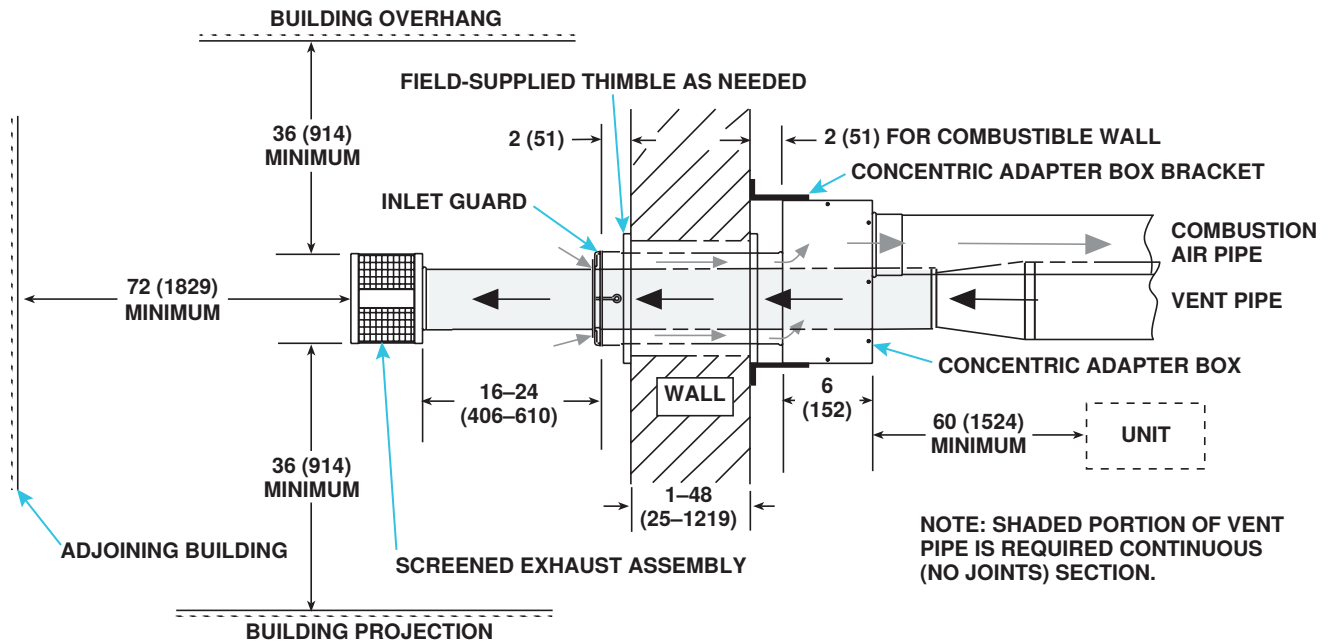

Figure 26. Option CC6 Installation
4. Secure longer angles on concentric adapter box brackets (see Figure 26) to concentric adapter box.
5. Connect outside section of combustion air pipe to concentric adapter box (see Figure 26):
- (1) Bracket length from box to wall
- (2) Plus wall thickness
- (3) Plus 2 inches (51 mm) beyond wall
6. Secure concentric adapter box to wall (see Figure 26):
- a. Position inlet guard over end of combustion air pipe in accordance with Figure 26.
- a. Refer to Figure 26 to determine lengths of each pipe segment and to calculate total length required. Transition to single-wall or Category III vent pipe run must be made maximum of 6 inches (152 mm) from heater side of box.
- d. Ensure that screened exhaust assembly is aligned so that its baffles are positioned at 12, 3, 6, and 9 o'clock (see Figure 26). Install screened exhaust in accordance with Figure 13.
10. Verify compliance with Figure 26 and with all specific venting requirements listed above.